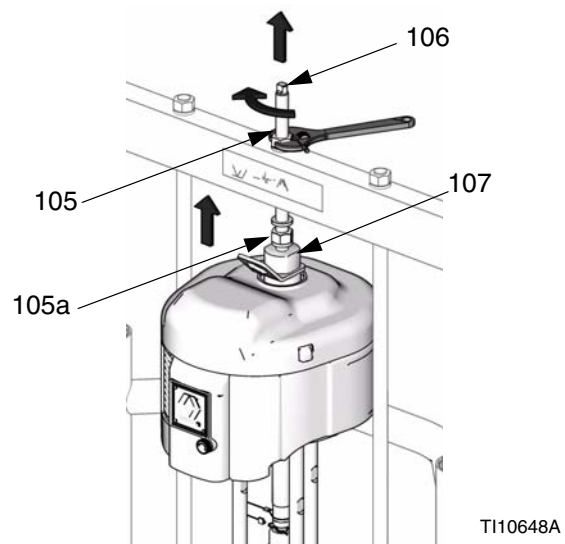

FIG. 21
- a. *For NXT with 55 gallon platen:* Use wrench on nut (105) on top of ram bar to lower air motor onto displacement pump. See FIG. 21 on page 20. Thread nut (105) up and tighten it under ram bar. Tighten nut (105) below the crossbar to 25 ft-lb (34 N•m) maximum.